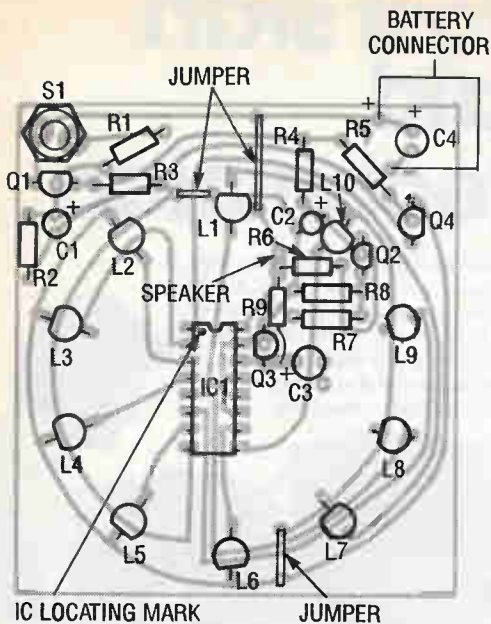

Figure 2. The kit is not difficult to build, but because so many polarized components are used, you have to be extra careful!
1. Building the Wheel of Fortune is not difficult if you're careful. Follow the parts-placement diagram in Figure 2, the schematic in Figure 1, and the parts list as we proceed. As with all of the kits presented in this issue, be sure to use a low-wattage iron and 60/40 rosin-core solder.